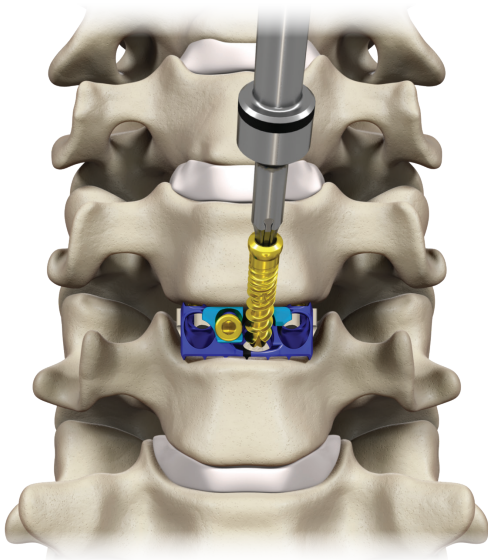

Figure 81
- Remove the awl/drill and guide. Load the desired screw onto the 2.0 mm hex driver. Insert the screw through the midline screw hole, advancing the screw until the screw head contacts the plate to provisionally stabilize the plate and structural allograft/autograft of the same height (Figure 81).